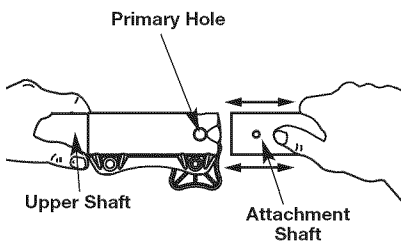

Fig. 4
WARNING: Before operating this unit, be sure that the release button is fully snapped into the primary hole (Fig. 2), and that the knob (Fig. 4) is securely tightened.
2. While firmly holding the trimmer attachment or other attachment, push it straight into the Convertible™ coupler until the release button snaps firmly into the primary hole (Fig. 4).
3. While firmly holding the upper shaft, pull the trimmer attachment or other attachment straight out of the Convertible™ coupler (Fig. 4).